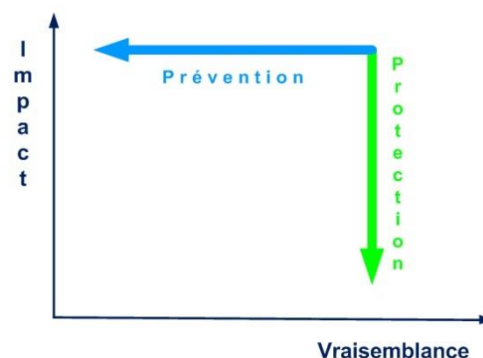

Figure 2-1. Prévention et protection
- prévention et protection, cf. figure 2-1